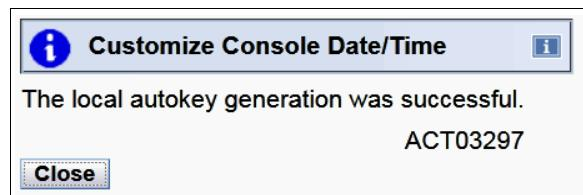

Figure 8-23 Autokey generation successful
- When generating the Autokey is successful, the confirmation window (Figure 8-23) opens. Click **Close**.